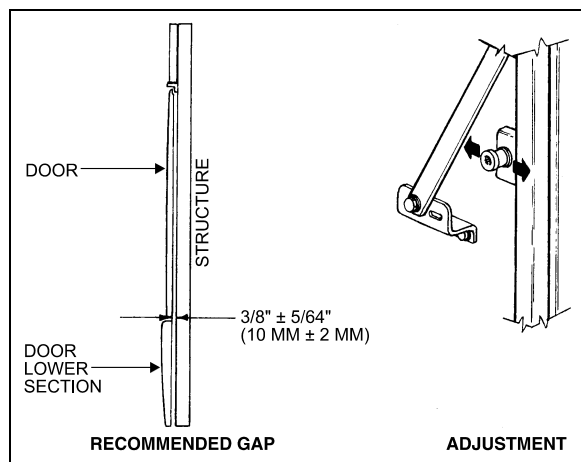

FIGURE 51: BAGGAGE COMPARTMENT DOOR 18070
7. With door shut, it should have a gap of $\frac{3}{8}'' \pm \frac{5}{64}''$ ($10\text{mm} \pm 2\text{mm}$) between door panel lip (at level of upper edge of lower section) and structural post. If not, move pins horizontally until correct gap is obtained. Fully tighten the pins after adjustment is achieved (Fig. 51).